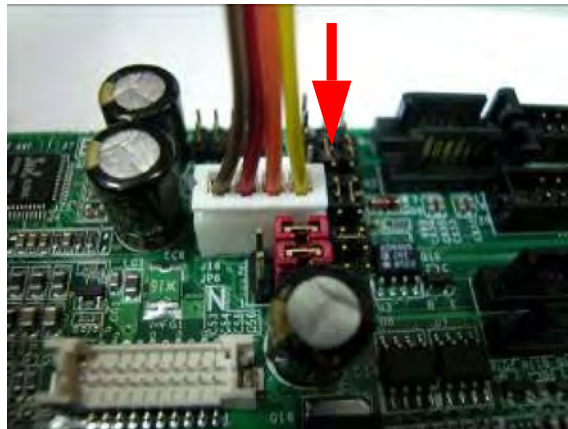

Figure 5-3
Step 2: Use 4-pin power cable to connect both ATX P/S Control Connector on backplane and ATX Power Control (J16) on Signal Board Computer. (Figure 5-3)